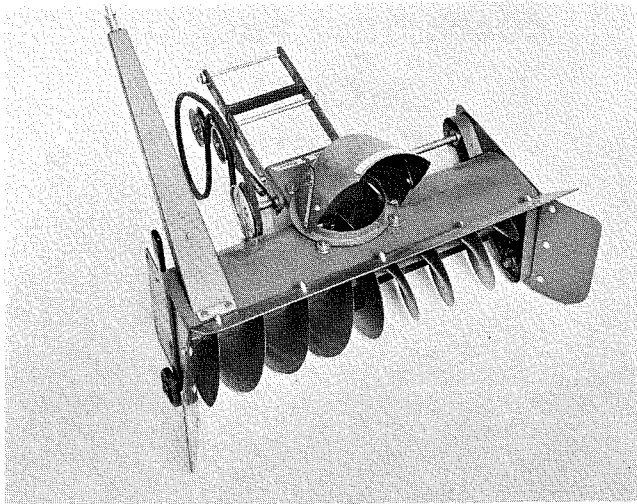

Figure 2
1. Mount the top and side extension plates as shown in Figure 2. Secure in place with the bolts, washers and nuts provided.
2. Install the mounting frame assembly by bolting the end with the four bolt holes to the blower housing frame. The arms should extend upward from the blower housing as shown in Fig. 2. Use the bolts and nuts provided to secure in place. Place one shim (#4774) between the LEFT arm and outside the blower housing. Place the remaining shim inside the right hand side of the blower housing as a reinforcement plate for the right arm.
3. Loosen the two $\frac{1}{4}$ " bolts holding the rear rollers. Slide the roller back and insert the ring on the shroud assembly into the roller grooves. Adjust the rollers forward to fit snug against the shroud ring. Tighten the bolts, the shroud should turn freely. See Fig. 2.
4. Insert idler arm assembly shaft through the hole in the right side of the mounting frame assembly. The assembly is held in place with a $\frac{1}{2}$ " washer and a hairpin cotter, items 17 and 18, see the exploded view drawing. Stretch the spring that is connected to the idler arm and hook the loose end into the hole provided in the blower housing frame.
6. Attach the crank and support assembly to the blower housing line up the holes in the crank support with the two holes in the blower housing and the two holes in the bracket. Two reinforcing plates are used to support the assembly to the blower housing. One is placed directly under the bolt heads and the other is placed on the inside of the blower housing, see Fig. 2 and the exploded view drawing.